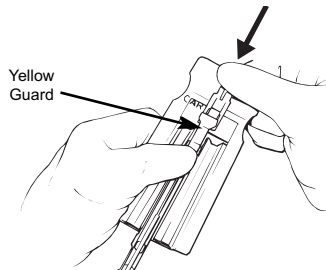

FIGURE 13
- 9b. While applying light pressure to both sides of the stapler forks, slide assembly clip over the stapler loading unit, ensuring that both sides of the stapler are held firmly in place by the assembly clip and that, on the cartridge side, the yellow guard is positioned between the assembly clip (See figure 13).